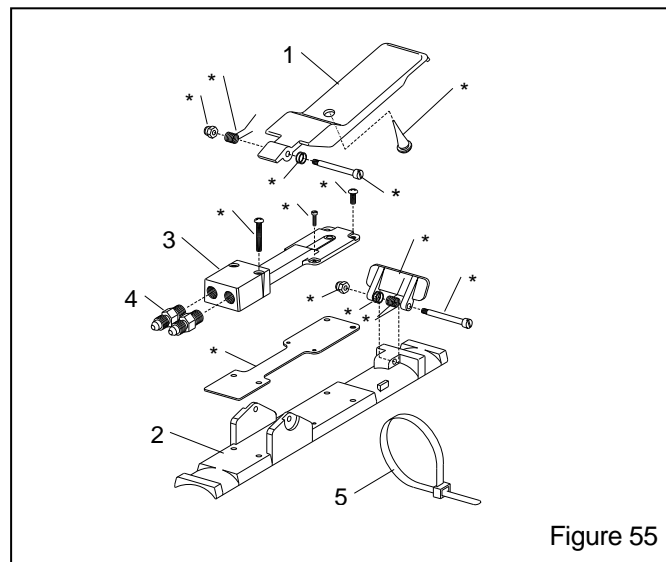

Figure 55
9.9 RLX Pneumatic Control Handle, Figure 55